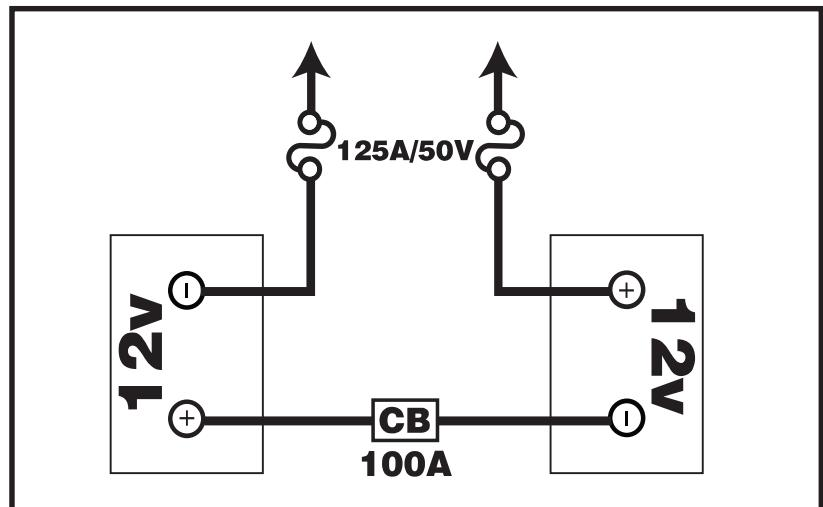

Figure 15. Battery Wiring Diagram
7. Place a new battery in each battery well. Face the battery terminals of each battery away from the seat post. **See figure 15.**